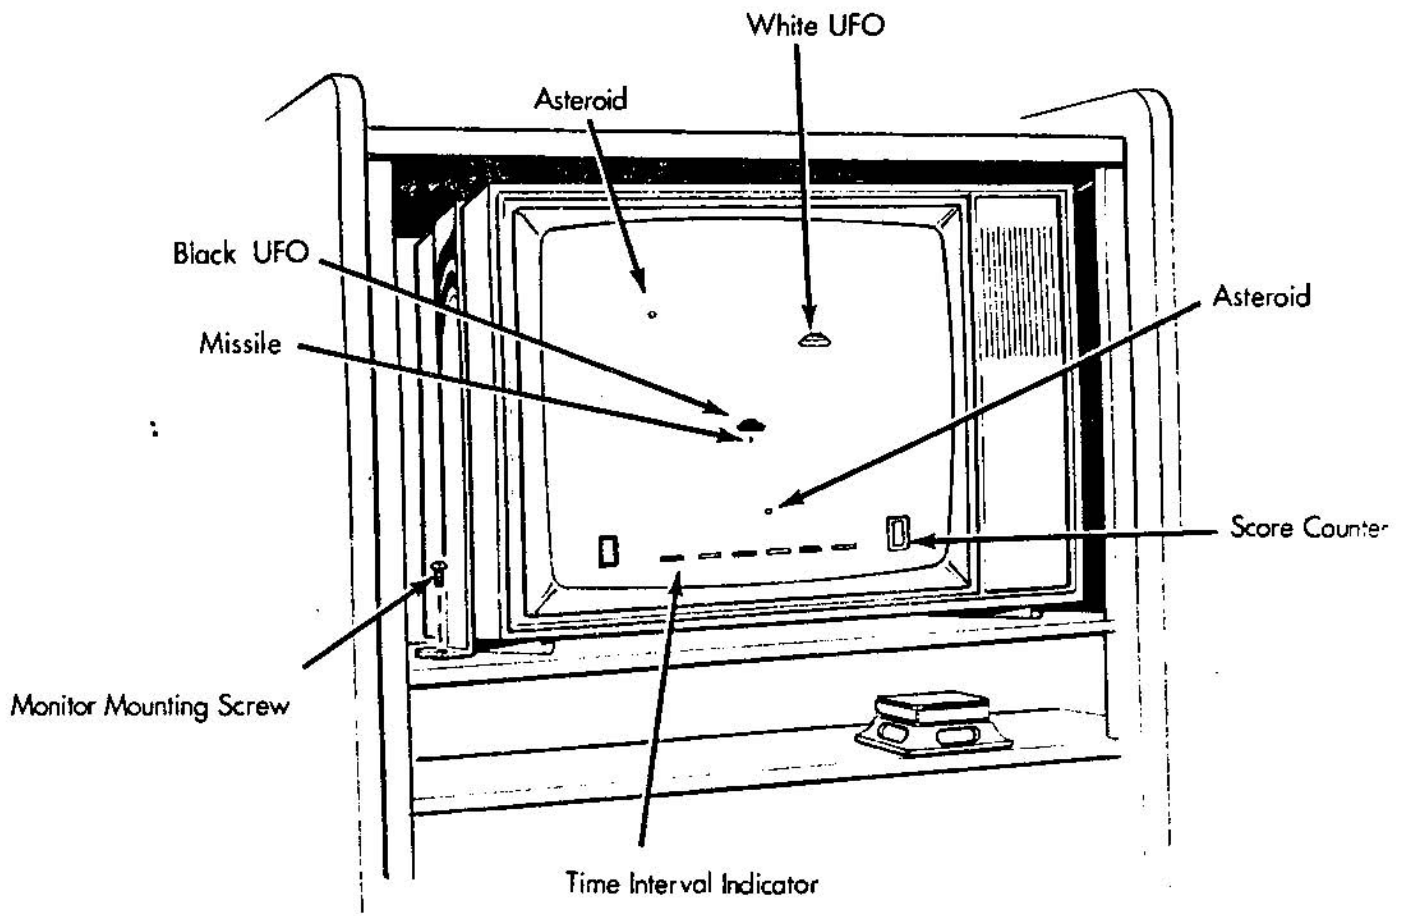

FIGURE 4
- . Plug into a 120 volt 60 hertz receptacle and turn on Power Switch located at the lower back of the Cabinet. After approximately a 15 second warm-up period, the Display shown in Figure 4 will appear on the Cathode Ray Tube.
### GENERAL - REFER TO FIGURE 4: